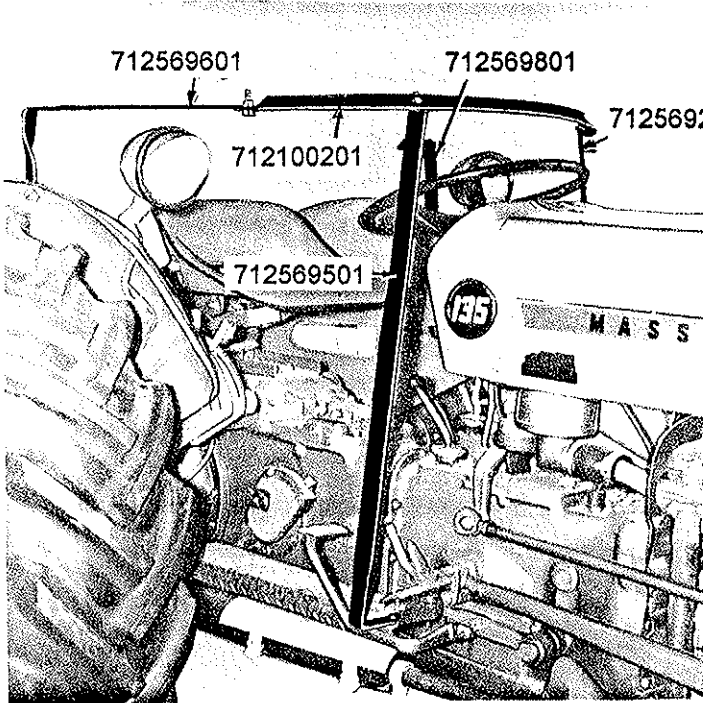

Figure 1
3. Bolt #712569501 right yoke support to tractor using two (2) 5/16" x 1" bolts and nuts as shown in Figure 1.
5. Slide #712569601 side arm into hem on right side. Bolt to yoke and to fender using 3/8" x 1 1/2" hex head bolts and nuts. See Figures 1 and 2.